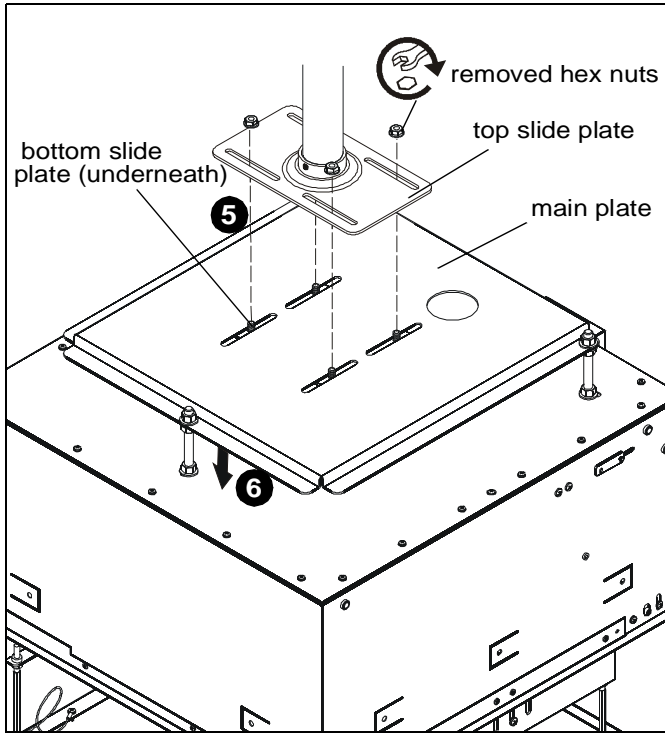

Figure 8
- Lift main plate and attached SL-151 underneath top slide plate making sure the four slots on each plate are perpendicular to each other. (See Figure 8)
- Insert four bolts up through four slots on top slide plate and secure using the four hex nuts removed in Step 1 of Disassemble Pipe Adapter Assembly. (See Figure 8)
7. Lower hex nuts holding main plate in place to bring SL-151 to desired height. (See Figure 8)